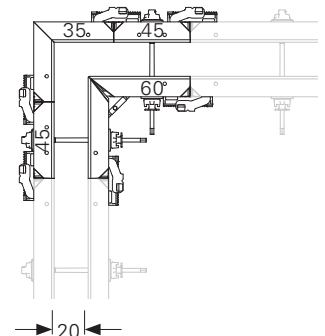

Fig. D2.03
- Wall thickness 20: Fig. D2.03 + D1.06a/c + D2.06b/d